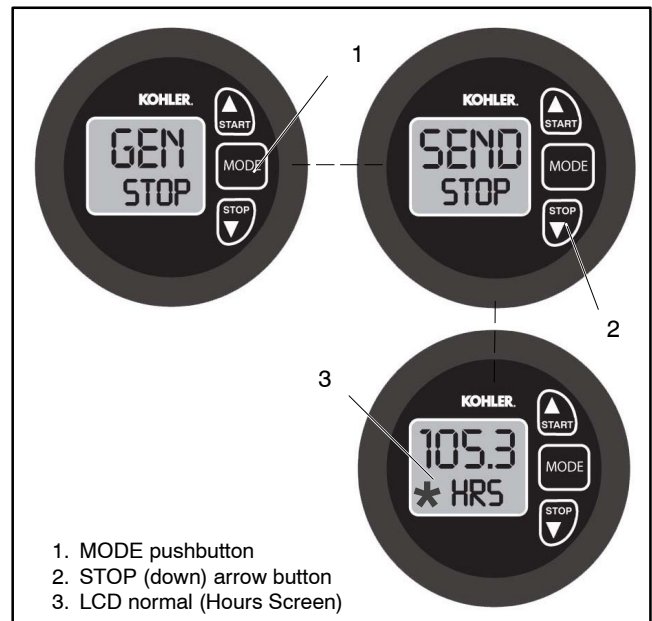

Figure 13 Gen STOP Gauge Pushbutton Functions
1. Press the **MODE** button until GEN STOP appears on the LCD screen. See Figure 13.
Press the **STOP** arrow (down) button ▼ to silence the alarm. See Figure 13.